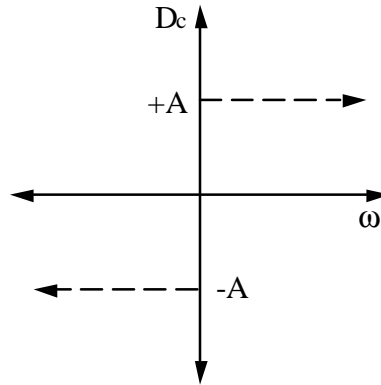

Figure 3. Nonlinear coulomb friction model.
This is shown in Figure 3. Equation (5) is therefore nonlinear and requires linearization to develop a linear model for the system.